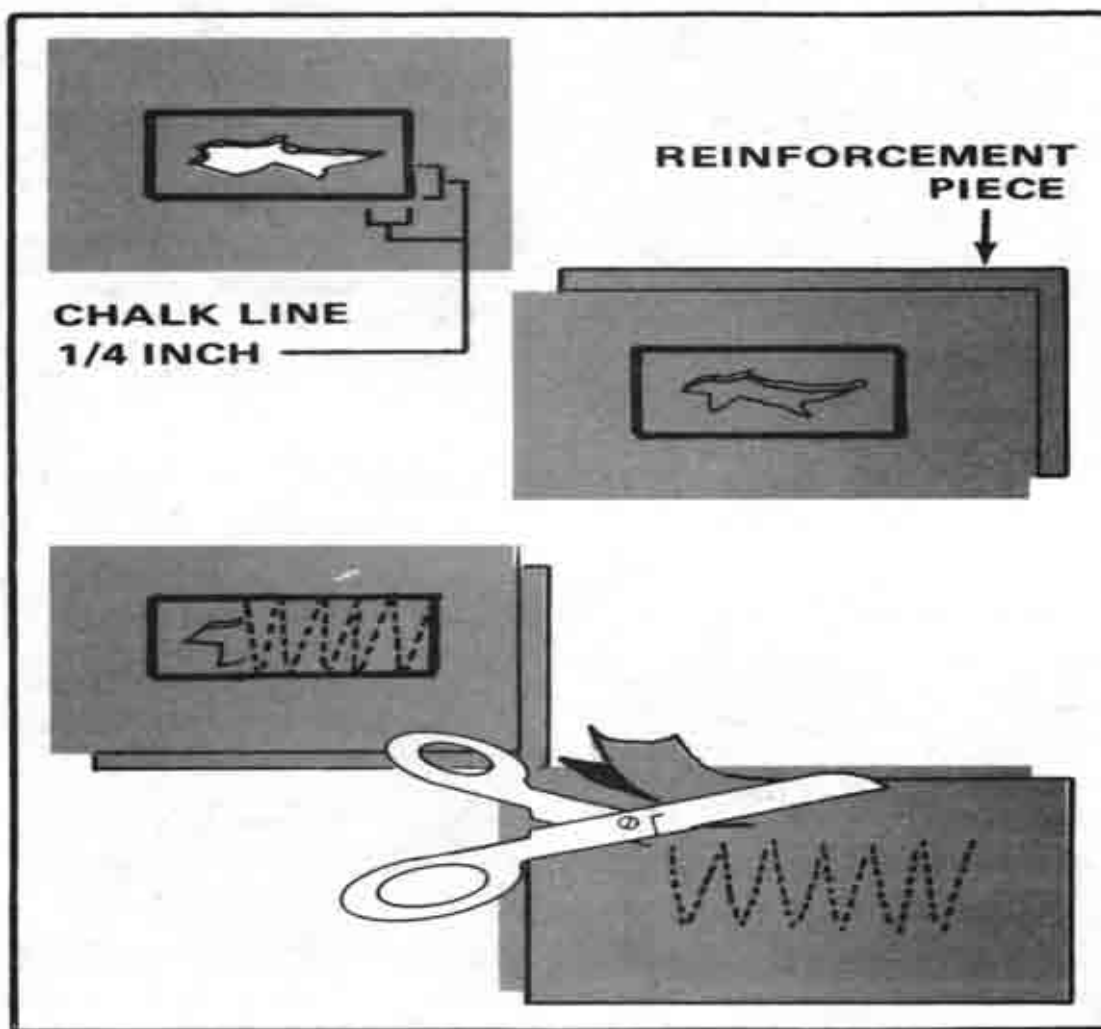

Figure 4-4. Reinforced darn
d. Reinforced Darn. The reinforced darn (Figure 4-4) is used to repair holes from 1/2 inch to 1 inch across. To make a reinforced darn--
- (1) Turn the garment or textile item so that the damaged area is faceup.
- (2) Measure 1/4 inch on each side of the hole, and draw a rectangle around the damage with tailor's clay chalk.
- (3) Place a scrap piece of matching fabric faceup under the hole.
- (4) Stitch back and forth across the hole and through the reinforcing fabric in a zigzag fashion. Completely fill in the rectangle with close rows of stitches.
- (5) Turn the garment or textile item over so that it is facedown. If necessary, trim any excess matching fabric to within 1/4 inch of the darn.